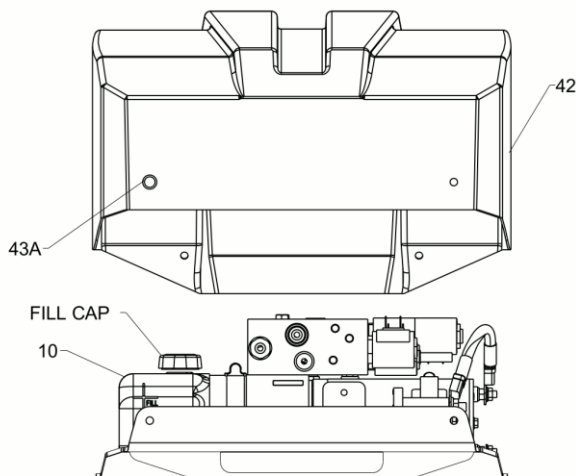

Figure 13. Hydraulic Fluid Fill Location G10759
3. Locate and remove the Fill Cap from the Hydraulic Power Unit (10) reservoir shown in Figure 13.